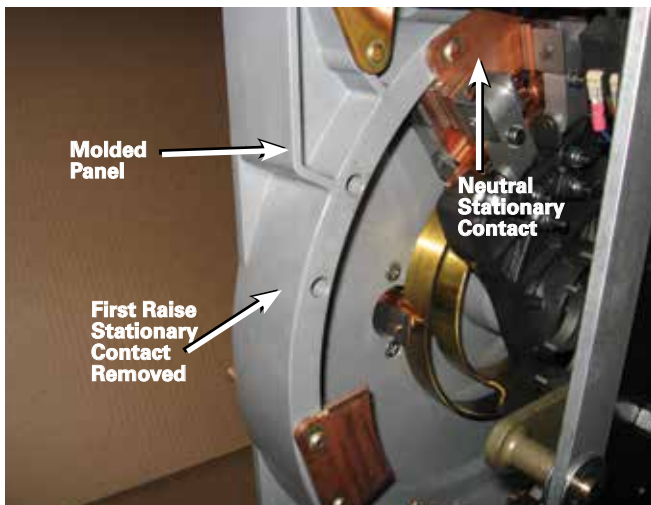

Figure 3. Stationary contact.
3. Remove the number 1 stationary contact from the molded panel using a 9/16" deep well socket wrench. Refer to Figure 3.